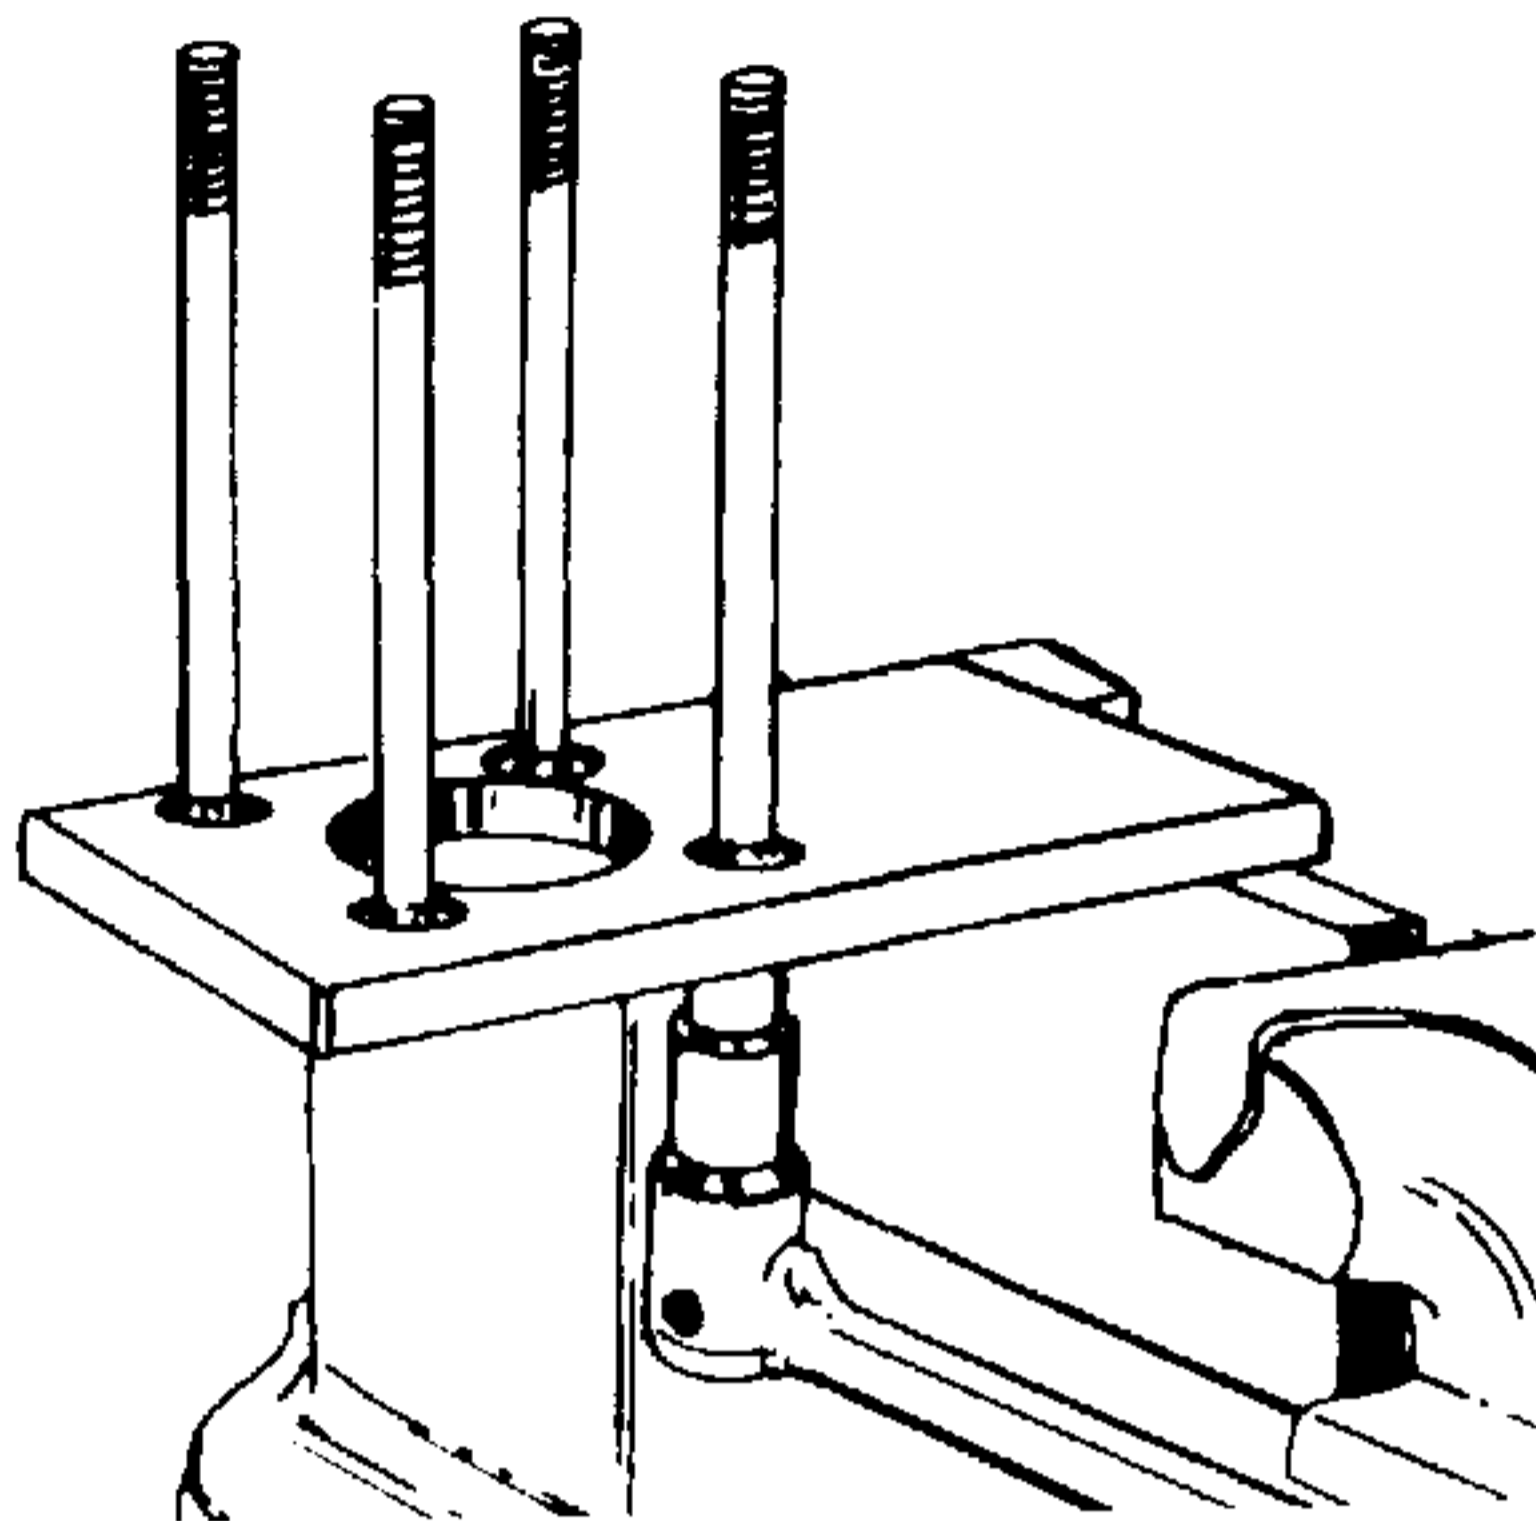

Figure 4-43. Removing the Special Bolts.
50. Remove the nuts holding the four special bolts (38, Figure 4-1) to the fixtures and remove the bolts. Bolts with square shoulders or the threads damaged such that the nuts cannot be properly torqued must be replaced. See Figure 4-43.